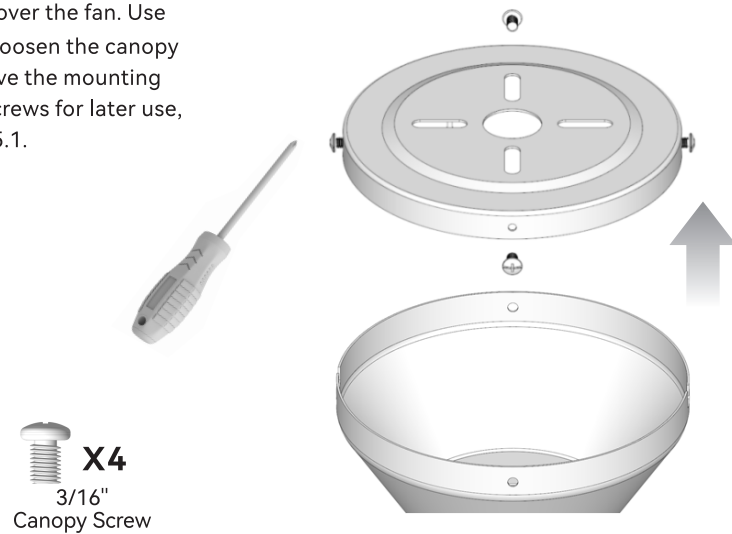

Fig. 5.1
5.1 Carefully flip over the fan. Use a screwdriver to loosen the canopy screws and remove the mounting plate. Save the screws for later use, as shown in Fig. 5.1.